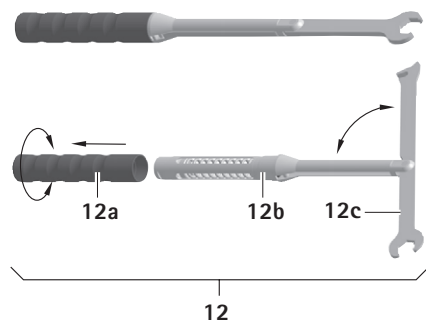

Fig. 3
- Push on the handle 12a in the opposite direction to the arrow and screw on, see Fig. 3.